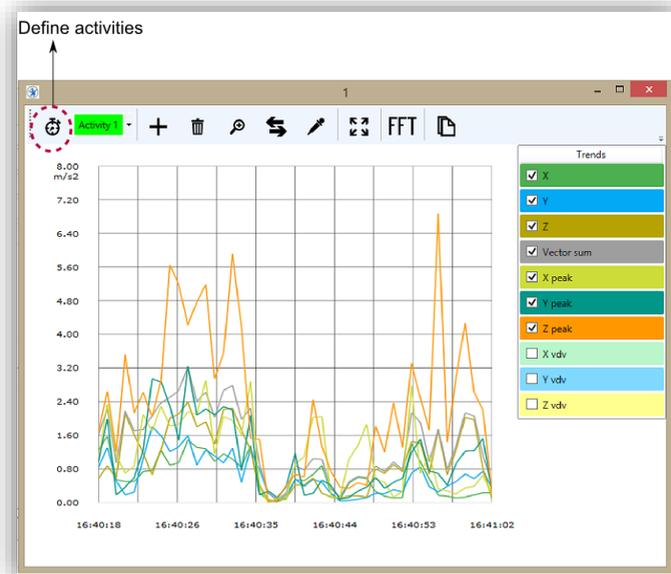

Figure 25: Graph window- Define activities
2. It is possible to rename, add, and choose different colors for activities (please see figure 25&26).